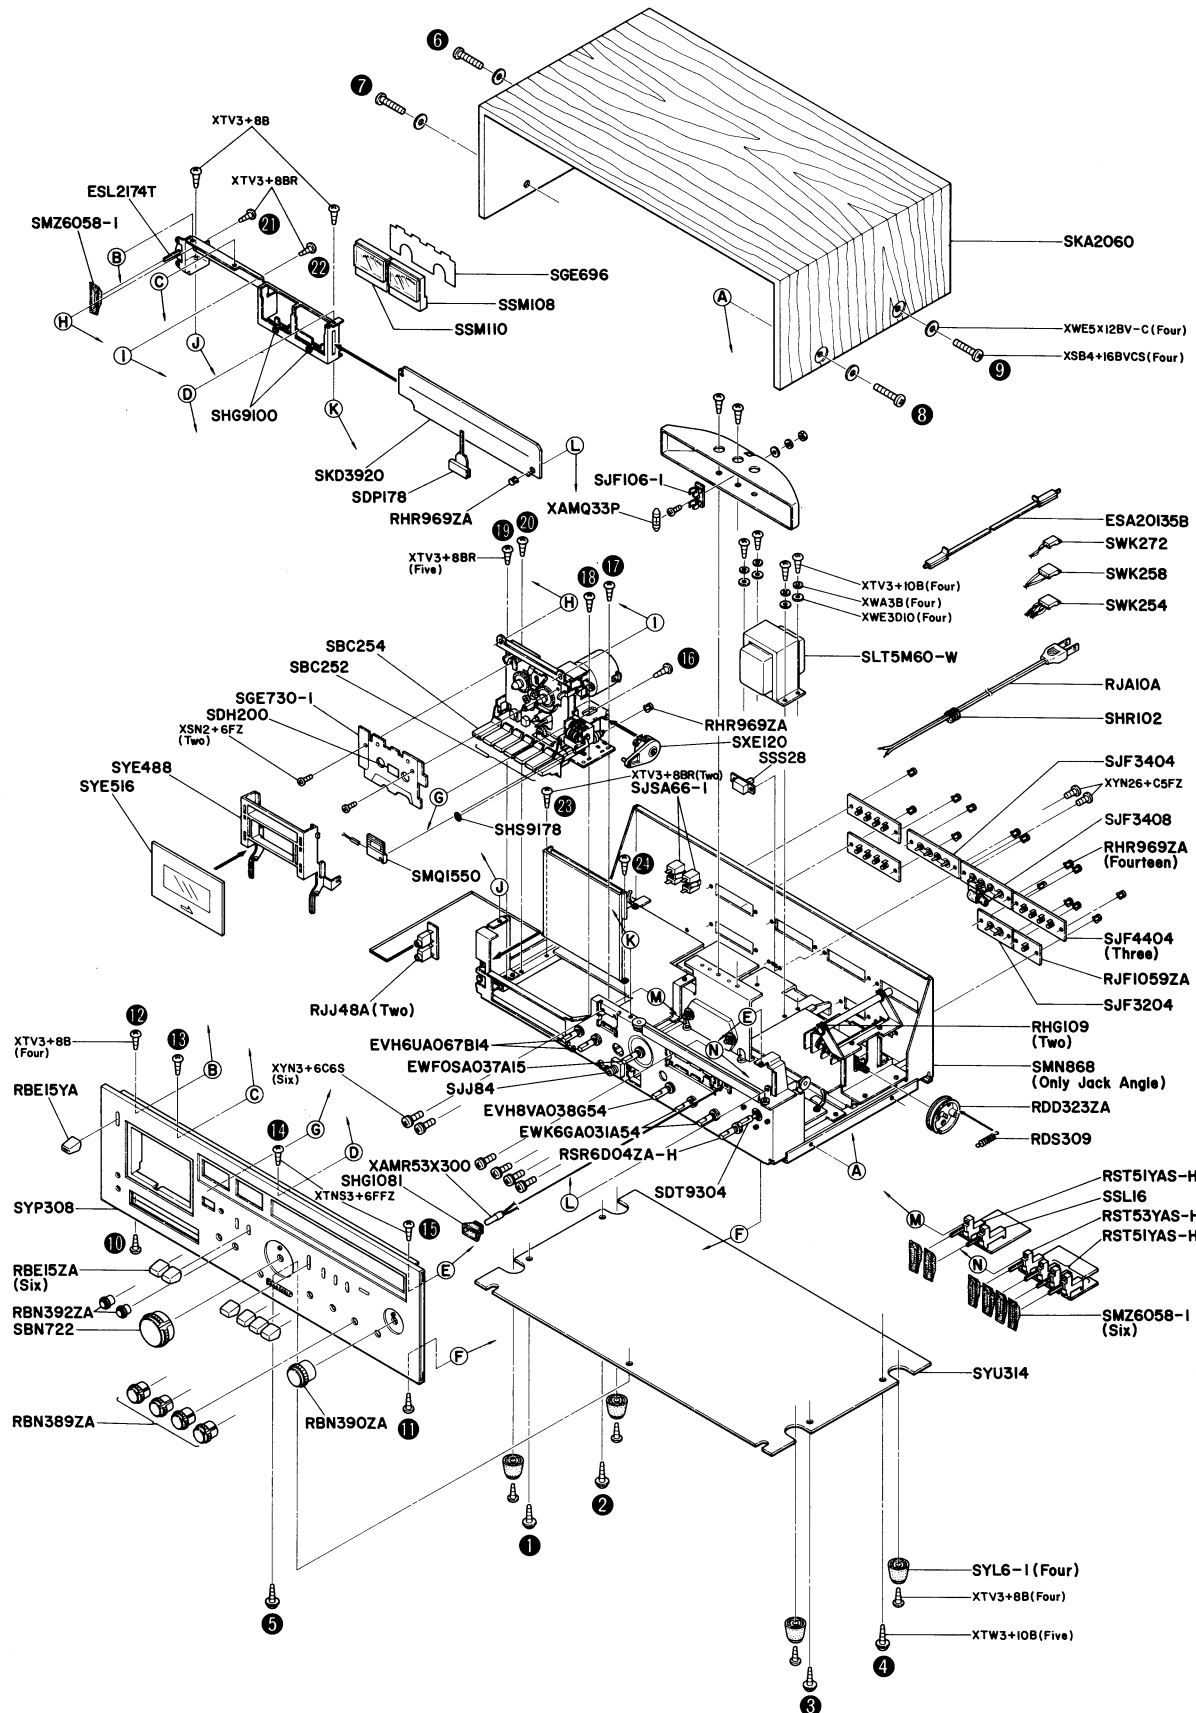

FIG. 6
1. Remove five (5) bottom board mounting screws Nos. 1 ~ 5 as shown in Fig. 6.
2. Remove four (4) cabinet mounting screws Nos. 6 ~ 9 as shown in Fig. 6.
2. Remove fifteen (15) knobs from front panel.
3. Remove eight (8) escutcheon mounting screws No. 5 and Nos. 10 ~ 16 as shown in Fig. 6.
3. Remove nine (9) cassette deck mounting screws Nos. 16 ~ 24 as shown in Fig. 6, and remove connectors.